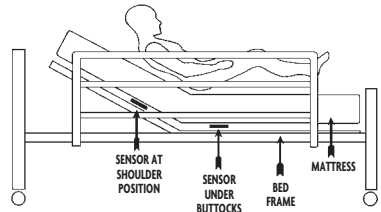
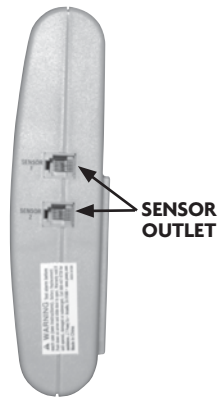

Fig. 26
Fig. 27
3. Place sensor under mattress and directly on top of bed frame. Choose one of two positions (depending on protocol and facility policy) (fig. 26):
- (A) Centered at patient's shoulder blades.
- (B) Centered under patient's buttocks.
7. Insert RJ11 plug into the jack labeled "sensor" on right side of alarm (fig. 27).